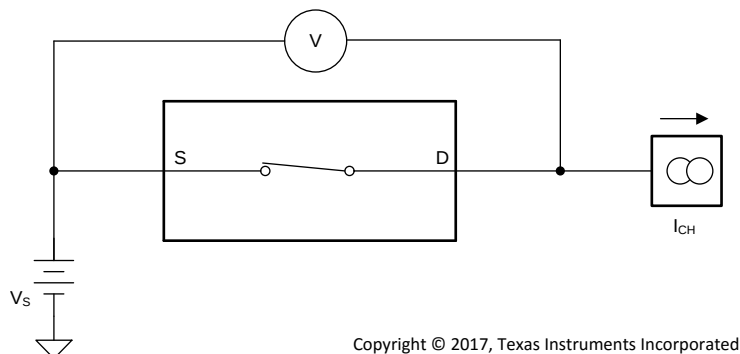

图 26. On-Resistance Measurement Setup
(1) X denotes *don't care*..
The on-resistance of the MUX50x is the ohmic resistance across the source (Sx, SxA, or SxB) and drain (D, DA, or DB) pins of the device. The on-resistance varies with input voltage and supply voltage. The symbol R_{ON} is used to denote on-resistance. The measurement setup used to measure R_{ON} is shown in 图 26. Voltage (V) and current (I_{CH}) are measured using this setup, and R_{ON} is computed as shown in 公式 1: